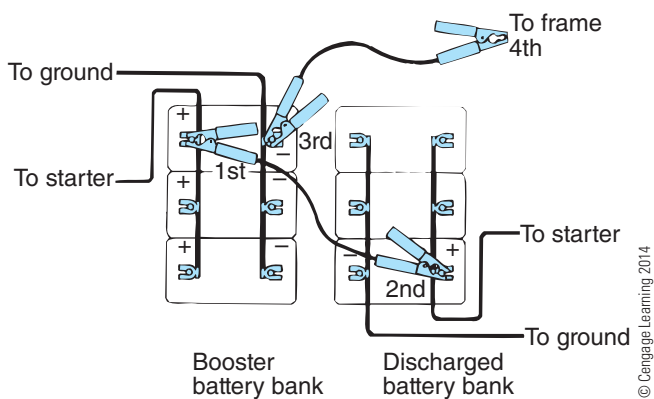

Figure 5-45 Cable attachment order for jump-starting a 12V truck with another 12V truck.
5. Connect jumper cables shown in **Figure 5-45** as follows (assuming 12V negative ground systems on both vehicles):